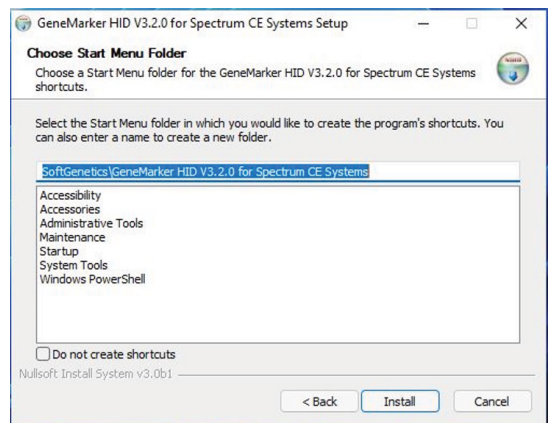

Figure 4. 'Choose Start Menu Folder' window.
7. Choose the Start Menu Folder for the software's shortcuts in the 'Choose Start Menu Folder' window (Figure 4), then select **Install**.